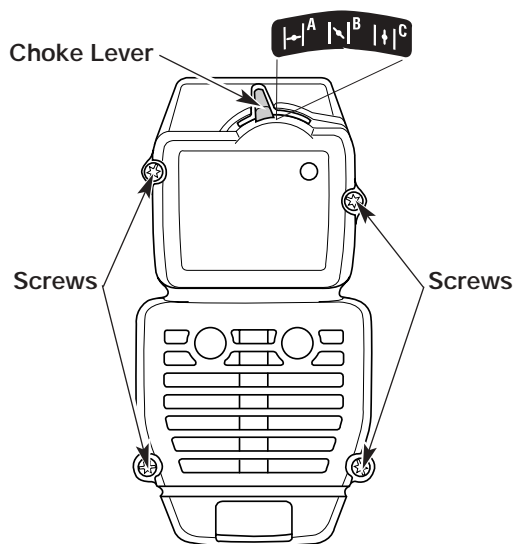

Fig. 21
**NOTE:** The choke lever must be in Position B (Fig. 21) to remove the air filter/muffler cover.
2. Remove the four (4) screws securing the air filter/muffler cover (Fig. 21). Use a flat blade or T-20 Torx bit screwdriver.
**NOTE:** The choke lever must be in Position B (Fig. 21) to install the air filter/muffler cover.
2. Insert the four (4) screws into the holes in the air filter/muffler cover (Fig. 21) and tighten. Use a flat blade or T-20 Torx bit screwdriver. Do not over tighten. Do not force.